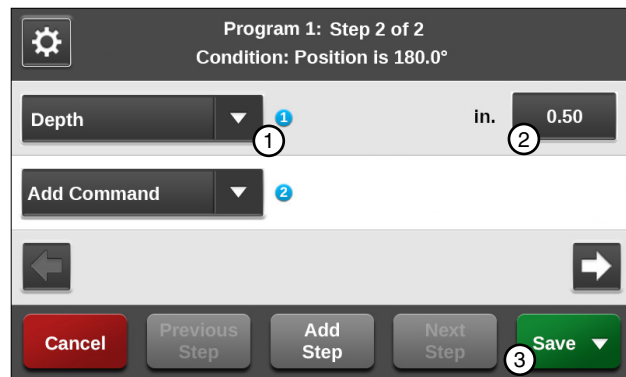

Figure 158-2 1. Depth Command 3. Save
8. Enter the command to be executed at this position. Refer to Figure 158-2.